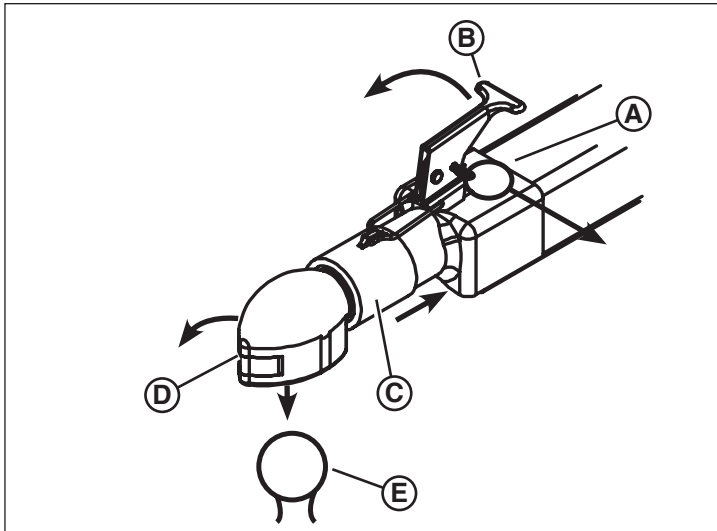

Figure 13
1. Make sure the coupler is open: Remove the pin (A, Figure 13) from the latch (B) and lift the latch. Make sure the coupler cap (D) is open and holds the collar (C) back.
2. Lower the trailer onto the hitch ball (E, Figure 13).